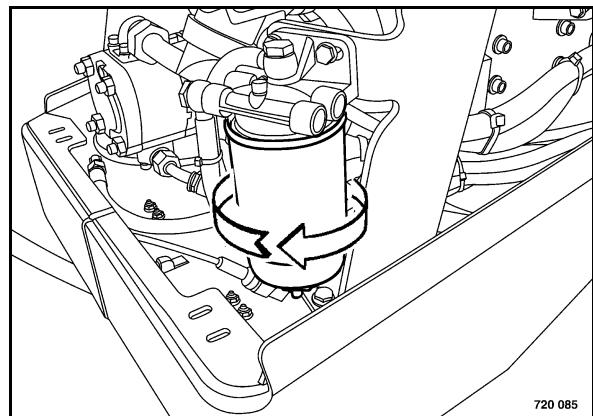

Fig. 113
- Loosen and unscrew the fuel filter cartridge (Fig. 113) using an appropriate filter wrench.